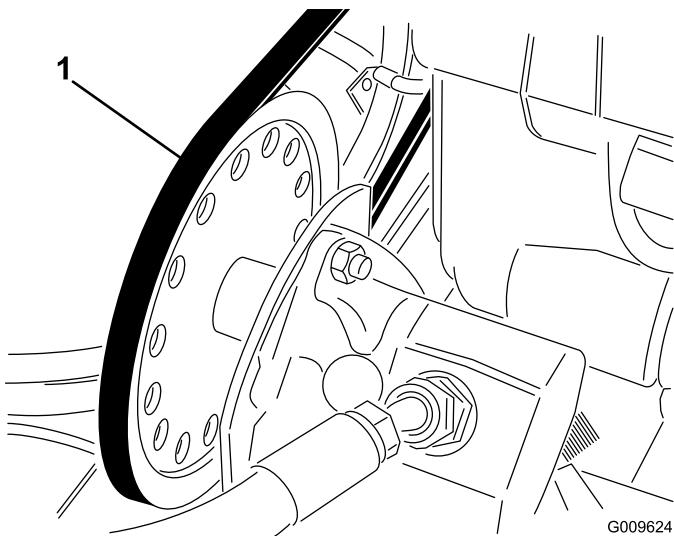

Figure 56
- A. Loosen the nuts securing the hydraulic pump to the engine frame (Figure 56).